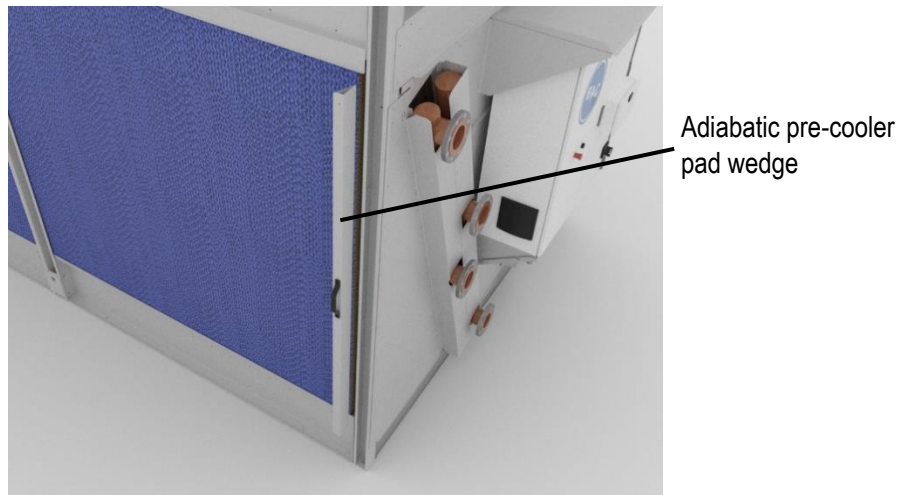

Figure 6. Adiabatic pre-cooler pad wedge
1. Remove the adiabatic pre-cooler pad wedge by removing two plastic knobs per wedge assembly. 4-fan units will have two pad wedges, 6-10 fan units will have four pad wedges, 12-fan units will have six pad wedges, and 14-18 fan units will have eight pad wedges. Refer to **Figure 6** for typical wedge locations.